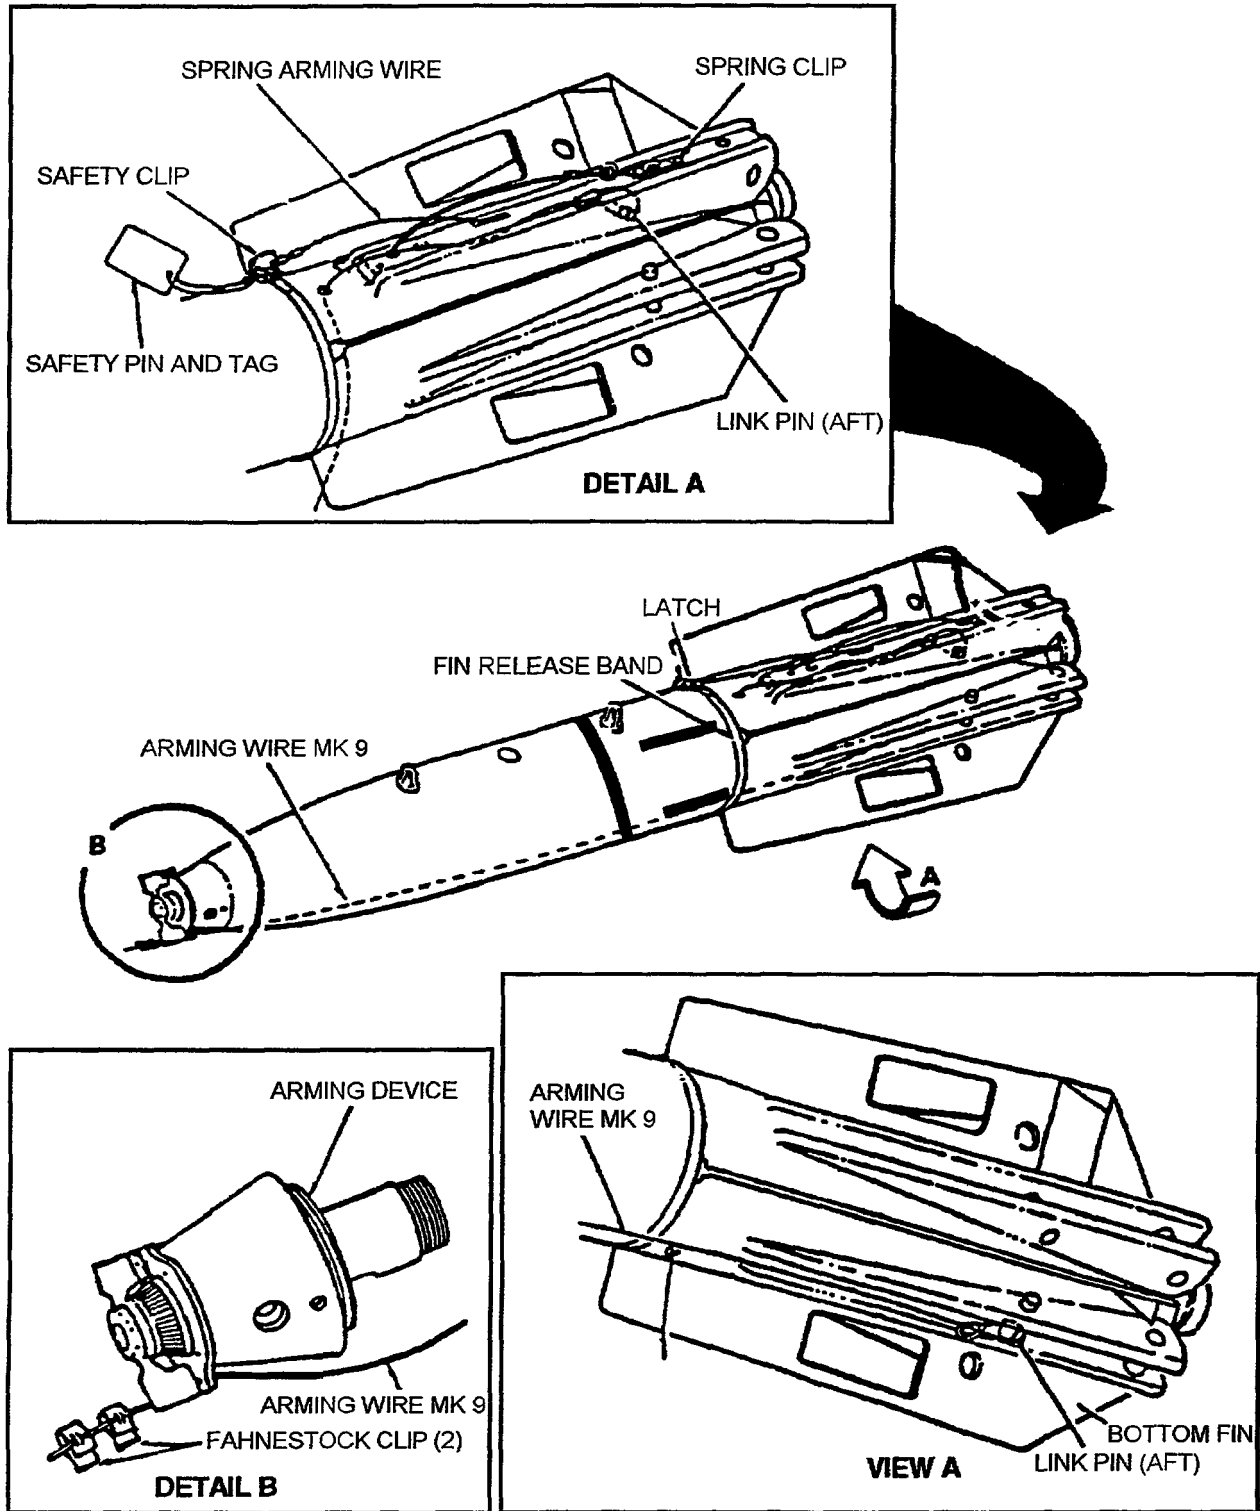
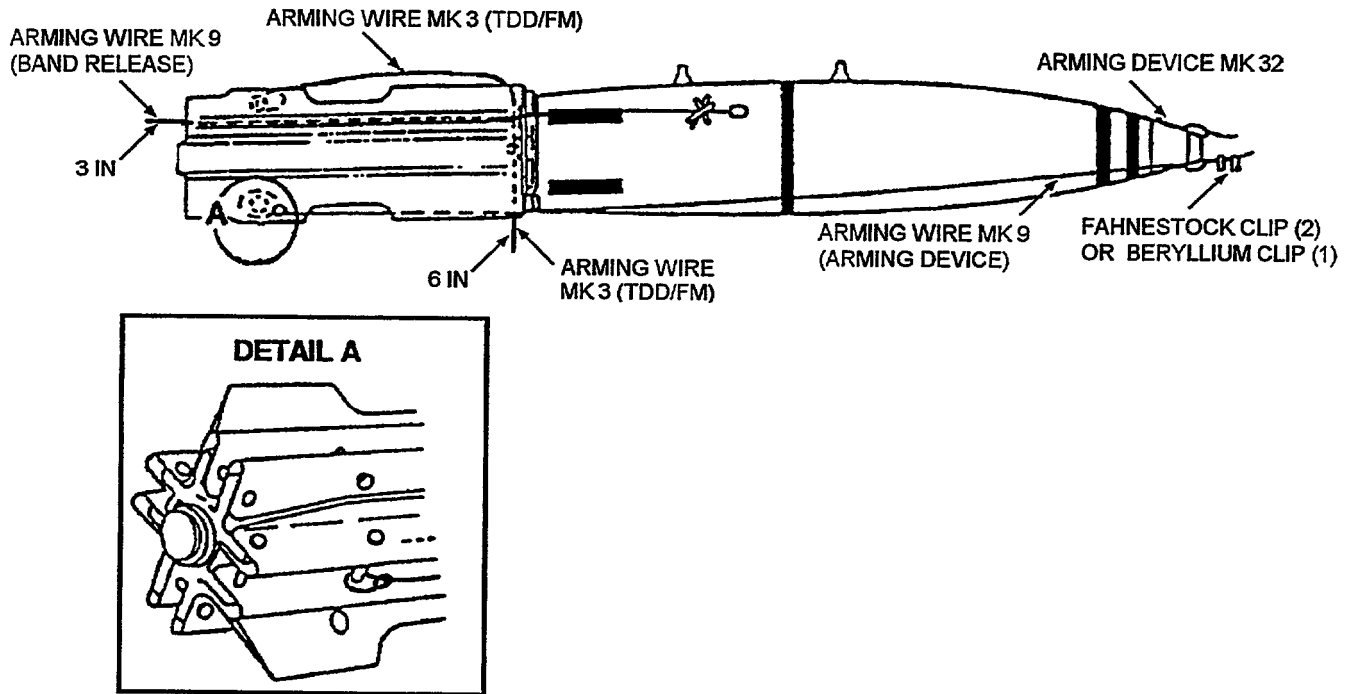

Figure 4-17D. Fin BSU-86/B or BSU-86A/B Arming Wire Installation (P-3 Rigging)
Figure 4-17E. Arming Wire Installation for Bomb Fin Mk 15
- (1) Loop swivel end of Arming Wire Mk 9 forward to aft end under the forwardmost link pin on the underside of fin. Pass the straight end of wire through eye of swivel at opposite end; then draw on wire until it is tightly secured to link pin.
- (2) Remove a safety clip and a Nicropress sleeve from the Arming Hardware Kit Mk 165.
- (3) Open the safety clip and install it in vane (outer hole) of arming device, as shown; then close the clip and slide it aft (Figure 4-17B, detail A; Figure 4-17D, detail B, as appropriate).
- (4) Slip the Nicropress sleeve onto arming wire.
- (1) Loop Arming Wire Mk 9 around the forwardmost link pin on the underside of fin (Figure 4-17E). Pass the straight end of wire through eye of swivel at opposite end; draw on wire until it is tightly secured to link pin.
- (1) Thread free end of Arming Wire Mk 9 under the link pin on bottom of fin (Figure 4-17D and Figure 4-17E).
- (2) Loop arming wire around the link pin and through swivel loop on the other end of Arming Wire Mk 9. Pull arming wire taut. Ensure arming wire is not kinked.
- (3) Insert free end of arming wire through outer hole on arming device lower vane.
- (4) All Aircraft Except B-52: Secure arming wire with two Fahnstock clips snug against arming vane.
- (5) B-52 Aircraft Only: Secure arming wire with one beryllium clip snug against arming vane.
- (6) Cut excess arming wire about 3 inches forward of arming device vanes. Discard remnant wire.